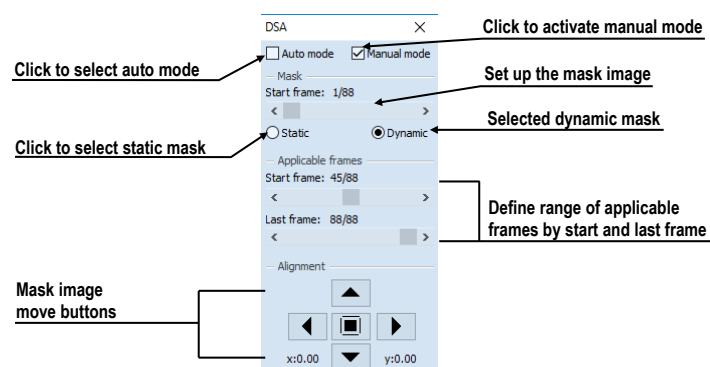

Figure 171 – DSA tool
2. Select the **Manual mode** in the **DSA** tool (see Figure 171).